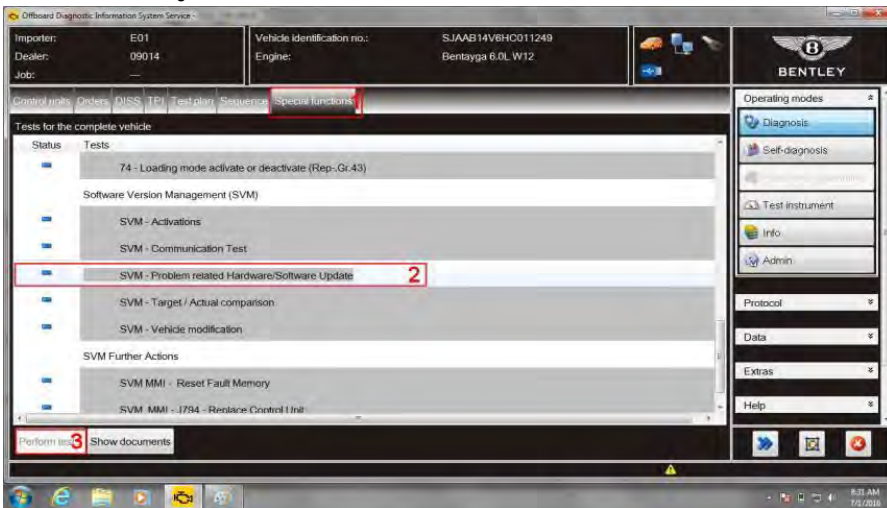

Figure 2
12. Select *Special functions* (1), Select SVM – Problem related Hardware/Software Update (2), Select *Perform test* (3) - Figure 2.